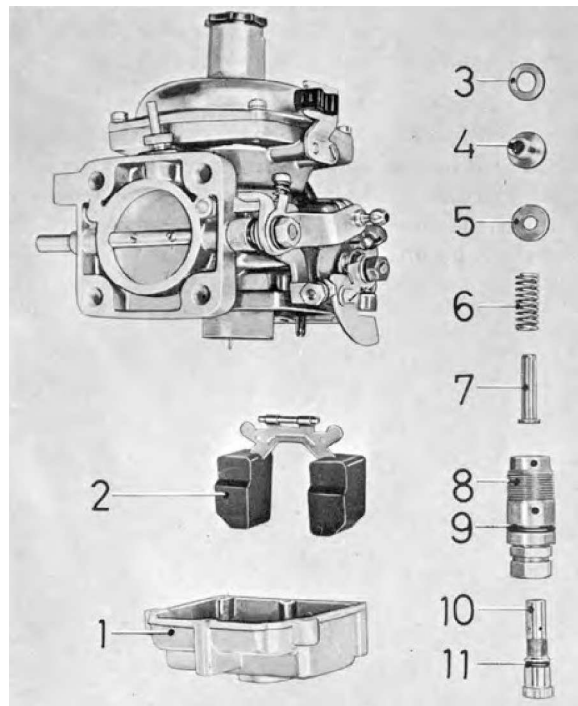

Fig. F1. Floatchamber dismantled
4. Screw out the jet holder (8) together with idle trimming screw (10), jet (7), spring (6), guide (4) and washers (3 and 5). See Fig. F1.